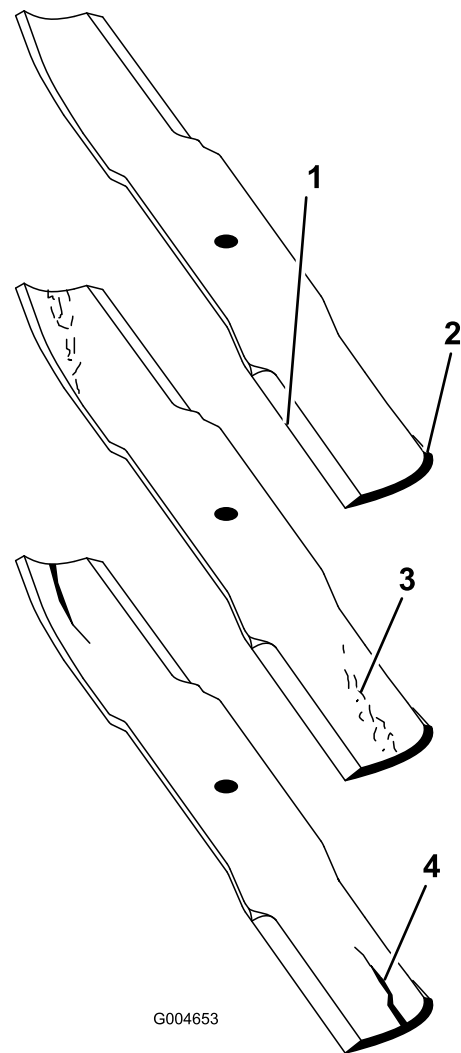

Figure 111
2. Examine the cutting ends of the blade carefully, especially where the flat and curved parts of the blade meet (Figure 111).
Note: Because sand and abrasive material can wear away the metal that connects the flat and curved parts of the blade, check the blade before using the mower. If wear is noticed (Figure 111), replace the blade.